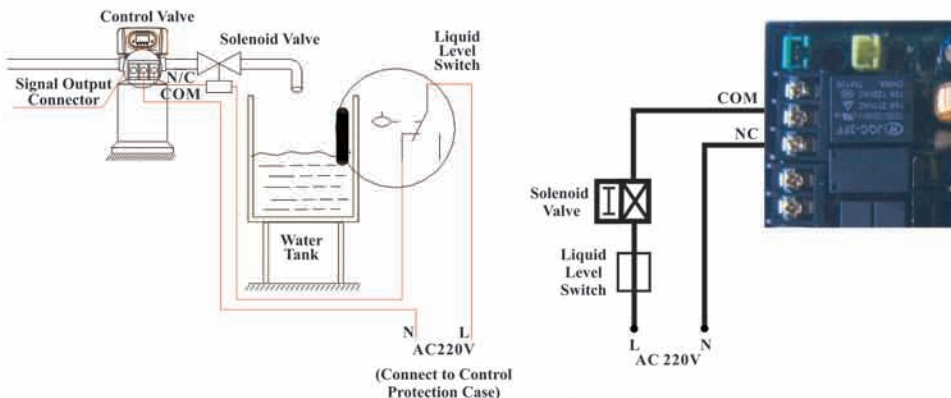

Figure3-1 Wiring of Solenoid Valve on Outlet
① Solenoid valve on outlet controls water level in brine tank.
**Instruction:** If system strictly requires no hard water flowing from outlet in regeneration cycle (Mainly for no hard water flows out when valve is switching or valve in backwash or brine drawing positions), a solenoid valve could be installed on outlet, the wiring refer to Figure 3-1.